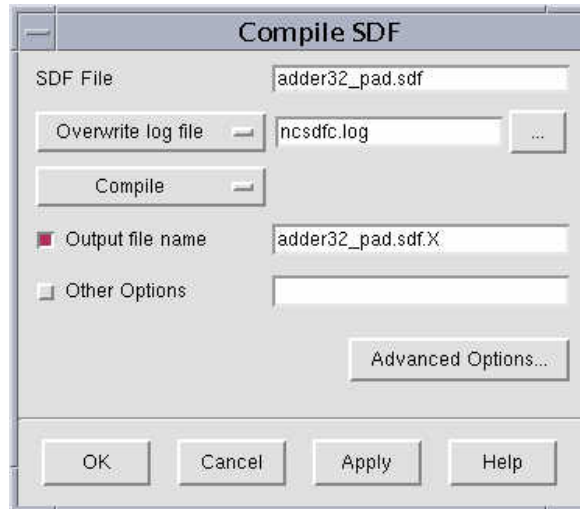

Figure 5-3 SDF compiler form.
- Open the SDF compiler to compile SDF file by clicking on **Tools→SDF Compiler...**. The **SDF Compiler** form appears. Set the form as figure 5-3, and then click on **Advanced Options** button.